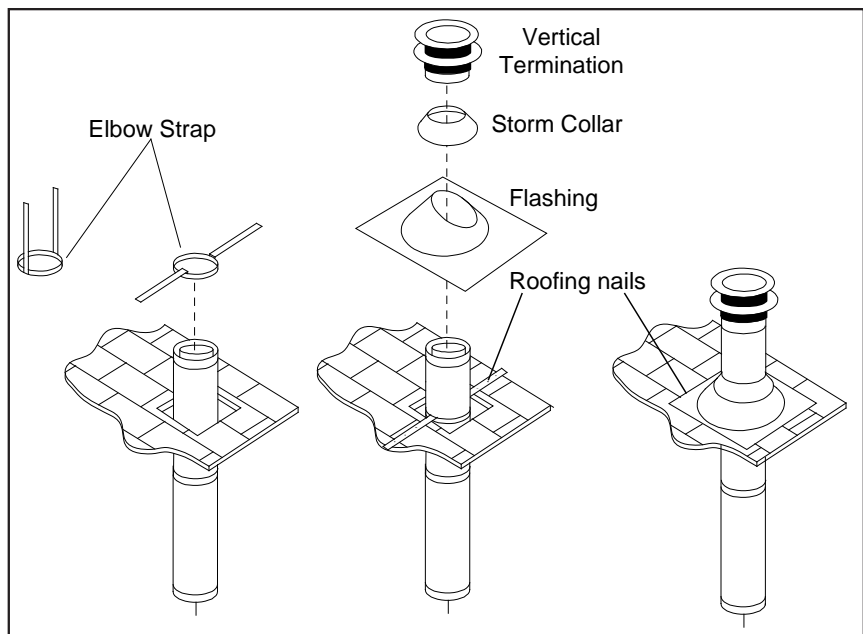
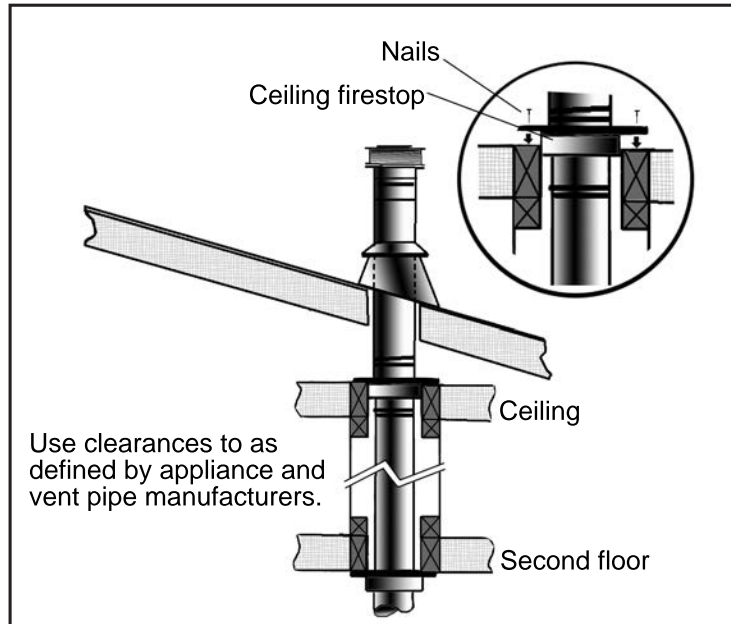

**Figure 30: Wall Framing for Hole for Vertical Installation.**
Figure 34: Multi-Story Vent Pipe Installation.
3. To install the Round Support Box/Wall Thimble in a flat ceiling, cut a 10" square hole in the ceiling, centered in the hole drilled in Step 2. Frame the hole as shown in Figure 30.
7. Slip the flashing over the pipe section protruding through the roof. Secure the base of the flashing to the roof with roofing nails. Use a non-hardening sealant between the uphill edge of the flashing and the roof. Insure the roofing material overlaps the top edge of the flashing as shown in Figure 30. Verify that you have at least the minimum clearance to combustibles at the roof line.
- (c) For multi story installations. A ceiling firestop is required at the second floor, and any subsequent floors (see Figure 34). The opening should be framed to 10" (25.4 cm) x 10" (25.4 cm) inside dimensions, in the same manner as shown in Figure 30.